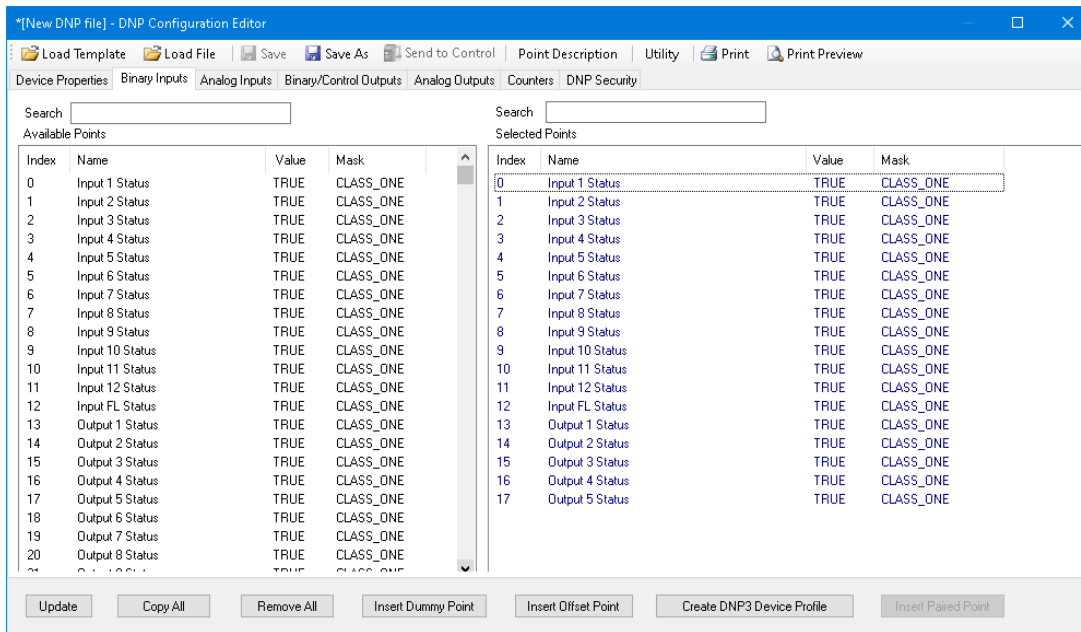

Figure 1-2 DNP Configuration Editor – Binary Inputs Tab
2. Select **Load Template/M-7679 Default** from the DNP Configurator menu bar. Select **Binary Inputs** tab, Figure 1-2 is displayed. The Available Points list for each DNP Points Group tab will also be populated.